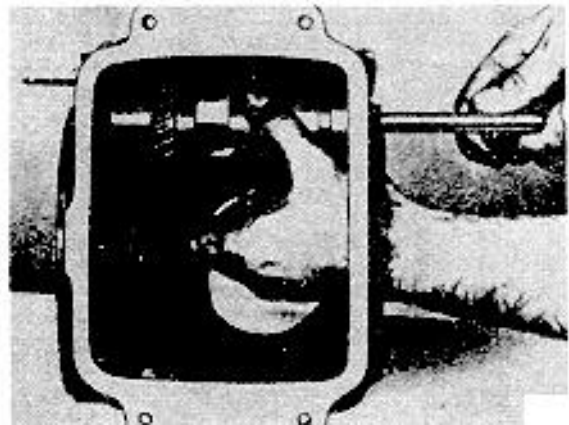

Figure 20
- c. With camshaft in position, slide camshaft pill through from bearing plate side and press into power-take-off side of block. Figure 20.